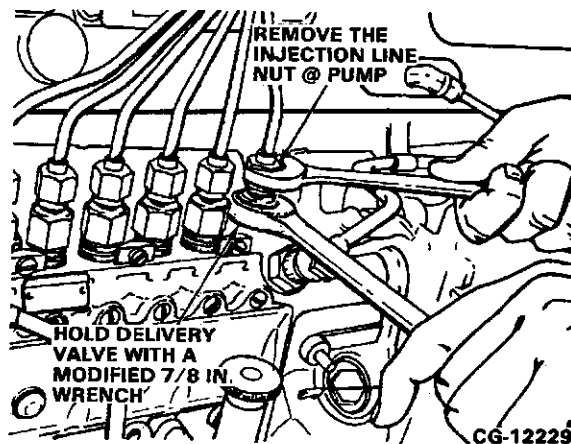

Figure 11.92. Remove Injection Line Nuts at Pump
2. Loosen and remove the fuel injection line nuts at the pump while holding the delivery valve holder with a modified 12 pt. 7/8 in. box wrench to prevent delivery valve movement (which could affect rack travel). Refer to Figure 11.92.